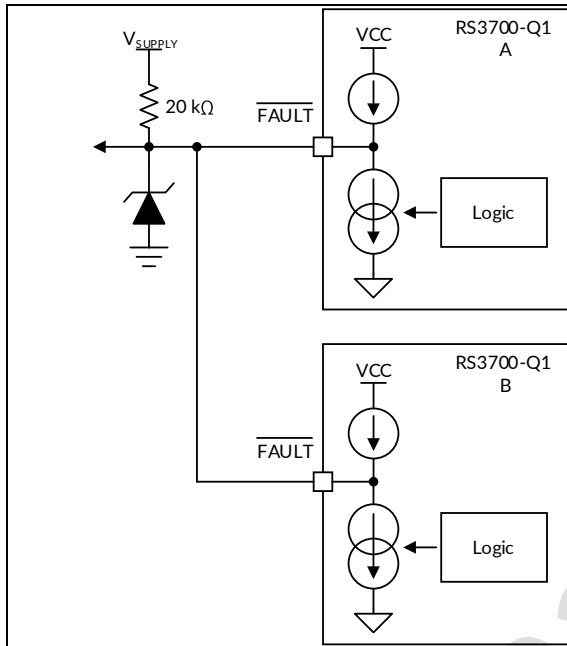
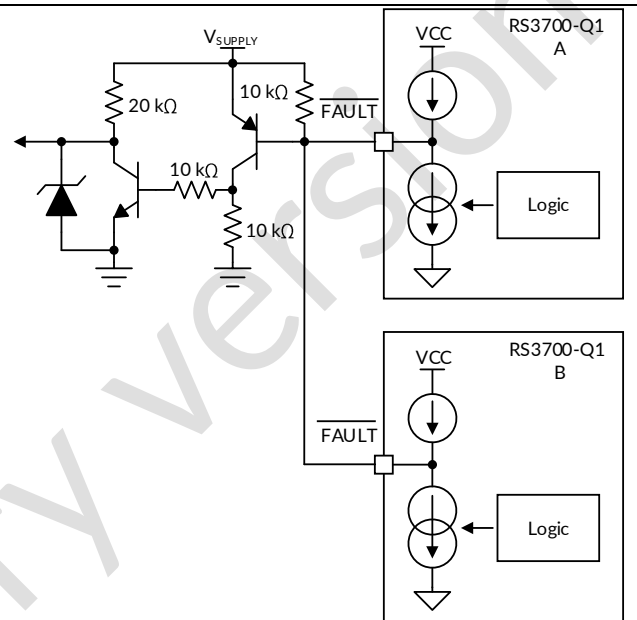

Figure 25. FAULT Bus for One-Fails-All-Fail Application
Figure 26. FAULT Bus for One-Fails-Others-On Application
Based on this feature, The RS3700-Q1 device is able to construct a FAULT bus by tying $\overline{\text{FAULT}}$ pins from multiple RS3700-Q1 devices to achieve one-fails-all-fail function as Figure 25 showing. The lower side RS3700-Q1 (B) detects any kind of LED fault and pulls low the $\overline{\text{FAULT}}$ pin. The low voltage on $\overline{\text{FAULT}}$ pin is detected by upper side RS3700-Q1 (A) because the $\overline{\text{FAULT}}$ pins are connected of two devices. The upper side RS3700-Q1 (A) turns off output current for channel as a result. If the $\overline{\text{FAULT}}$ pins of each RS3700-Q1 are all connected to drive the base of an external PNP transistor as illustrated in Figure 26, the one-fails-all-fail function is disabled and only the faulty channel device is turned off.